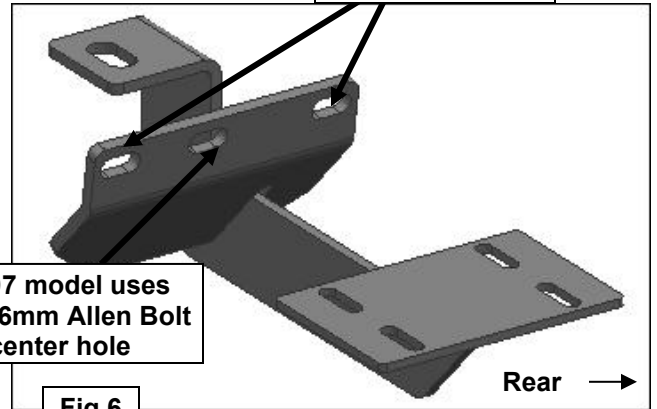

Fig 6
- a. **2007 - 8:** Use only the center hole on the Bracket and (1) 6mm x 25mm Allen Bolt, (1) 6mm Small Flat Washer (outside) and (1) 6mm Large Flat Washer, (inside against bracket), and (1) 6mm Nylon Lock Nut to attach rear bracket to the back of the pinch weld, **(Figures 6 & 7)**.
- b. **2008 - 12:** Requires (2) 6mm Allen Bolts, (2) 6mm Small Flat Washers (outside) and (2) 6mm Large Flat Washers, (inside against bracket), and (2) 6mm Nylon Lock Nuts to attach rear bracket to back of pinch weld, **(Figures 6 & 8)**.